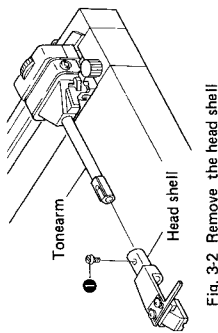

Fig. 3-2 Remove the head shell
1. Undo screw ① in the tonearm, and remove the head shell (Fig. 3-2).